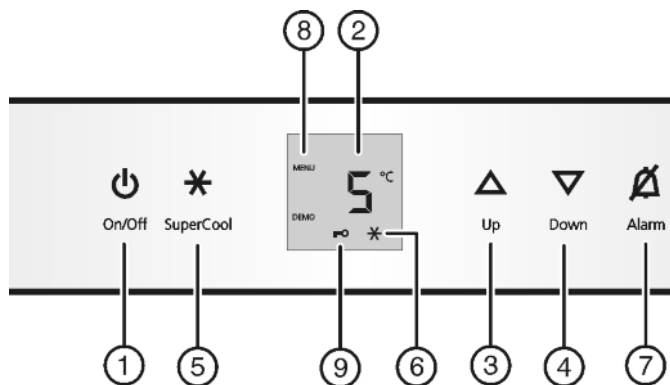

Fig. 2
- ▶ Press On/Off button *Fig. 2 (1)*.
- ▶ Activate setting mode: Press the SuperCool button *Fig. 2 (5)* for around 5 seconds.
- ▶ Briefly press the SuperCool button *Fig. 2 (5)* to confirm. When **cl** is indicated in the display:
- ▶ to activate the child lock, briefly press the SuperCool button *Fig. 2 (5)*.
- ▷ The child lock symbol *Fig. 2 (9)* shines. **c** flashes in the display. When **cl** is indicated in the display:
- ▶ to deactivate the child lock, briefly press the SuperCool button *Fig. 2 (5)*.
- ▷ The child lock symbol *Fig. 2 (9)* goes out. **c** flashes in the display.
- ▶ To deactivate the set-up mode: press On/Off button *Fig. 2 (1)*.
- ▶ Press alarm button *Fig. 2 (7)*.
- ▶ For a higher temperature setting: press Up button *Fig. 2 (3)*.
- ▶ For a lower temperature setting: press Down button *Fig. 2 (4)*.
- ▶ Briefly press SuperCool button Fig. 2 (5).
- ▷ The SuperCool Fig. 2 (6) symbol lights up in the display.
- ▷ The SuperCool symbol Fig. 2 (6) goes out in the display.